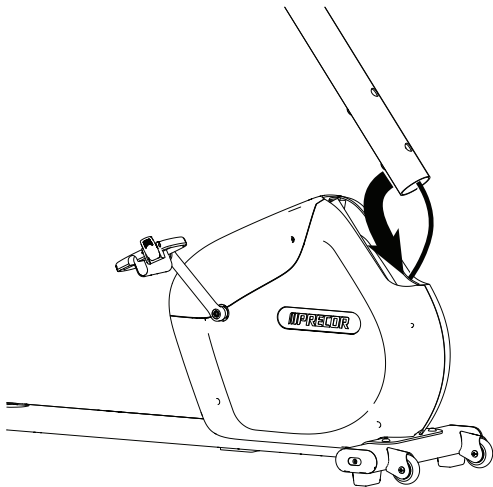

Figure 11
- 7. Lift the upright support and position its lower end over the upright support channel. Set the upright support so that it rests on the metal tab within the upright support channel to prevent sliding (Figure 11).